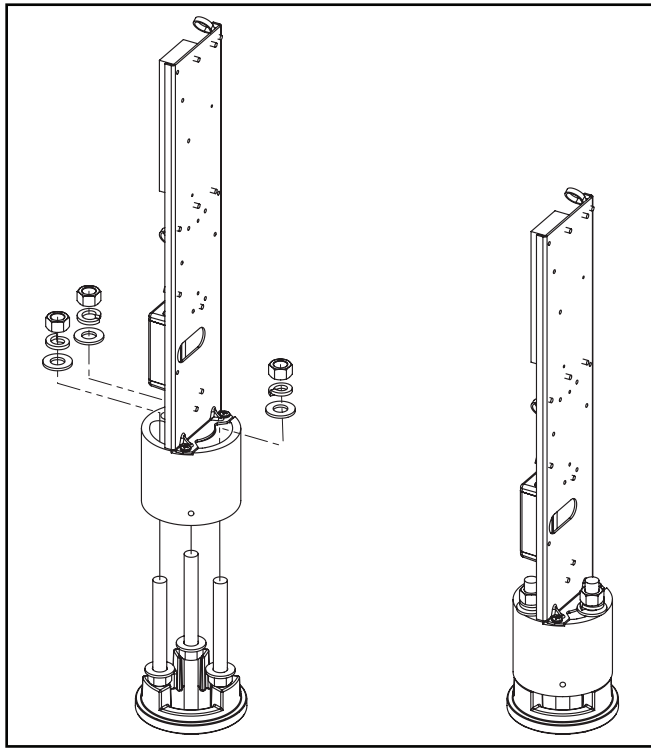

Figure 3.
10. After base driver assembly is in position, add (1) washer, (1) lock washer, and (1) nut per anchor bolt and torque bolts to 30 ft.-lbs. (41 N-M). (Figure 3.)